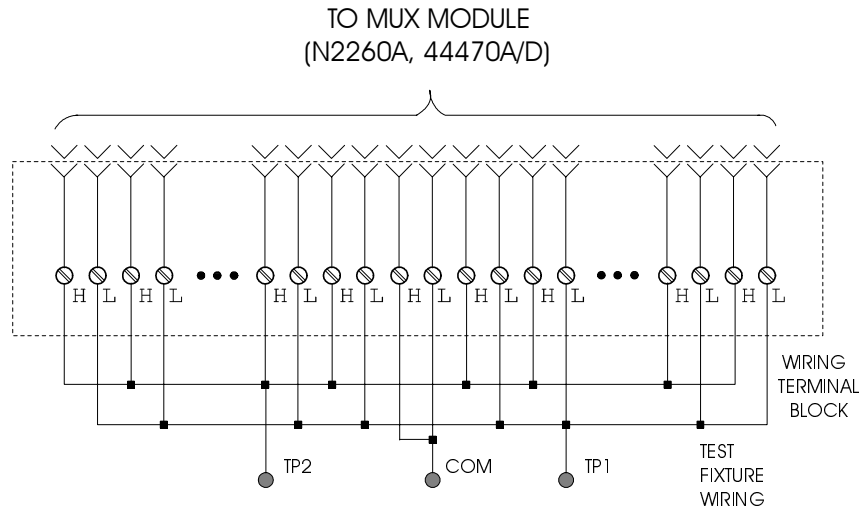

Figure 4-1. MUX Modules Test Fixture
MUX module's removable wiring terminal block as shown in Figure 4-1.
6. Connect the Multimeter between COM & TP1 (or COM & TP2) on the test fixture (Figure 4-1 on Page 55);